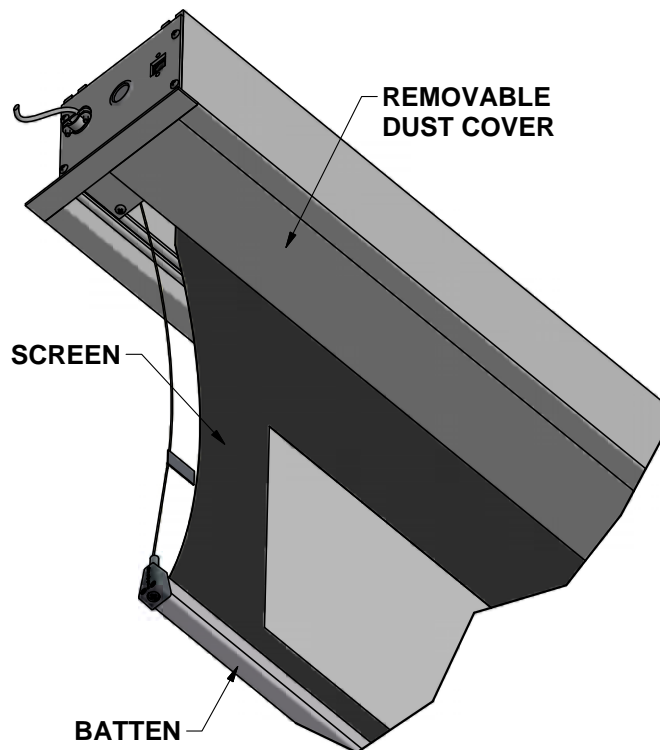

Figure 8: Underside view
4. Attach the removable dust cover by sliding in to the housing. Refer to Figure 8.